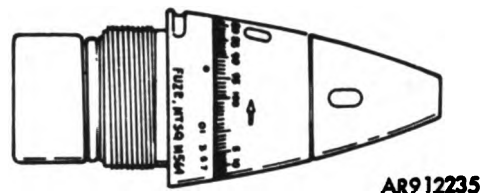

Figure 211.19. Mechanical time and superquick fuze M564.
e. Fuze, Mechanical Time and Superquick, M564 (fig. 211.19). The M564 fuze is designed to function at time settings from 2.0 seconds up to 100 seconds or upon impact, depending upon which occurs first after arming. Fuzes manufactured through 1969 must be set on 90 seconds if superquick (impact) action is desired. Setting of these fuzes between S and 2 seconds may result in functioning after ap-